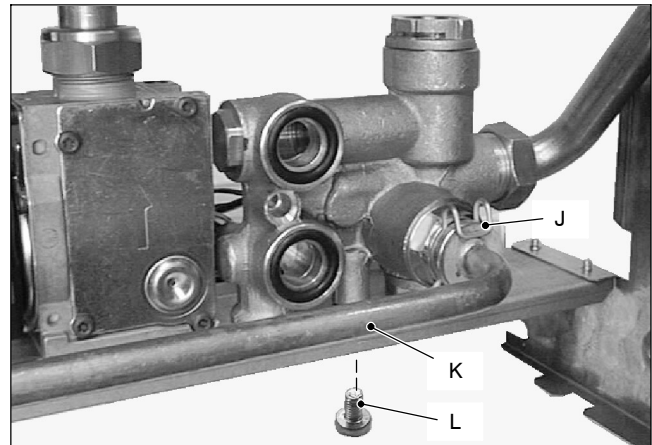

Fig. 8.6 Rear view of the boiler
- 8 Remove the fork *J* and move away the pipe *K* (Fig. 8.6).